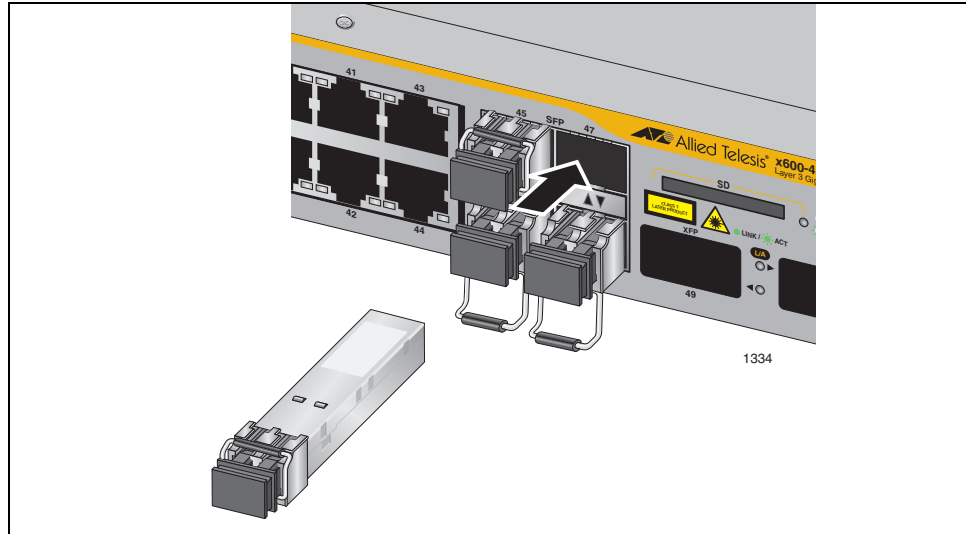

Figure 35. Positioning SFP Handles on the x600-48Ts and x600-48Ts/XP Switches
6. For the x600-48Ts and x600-48Ts/XP switches, verify that handles on the top two SFP modules are in the up position and the bottom two SFP modules are in the down position as show in Figure 35.